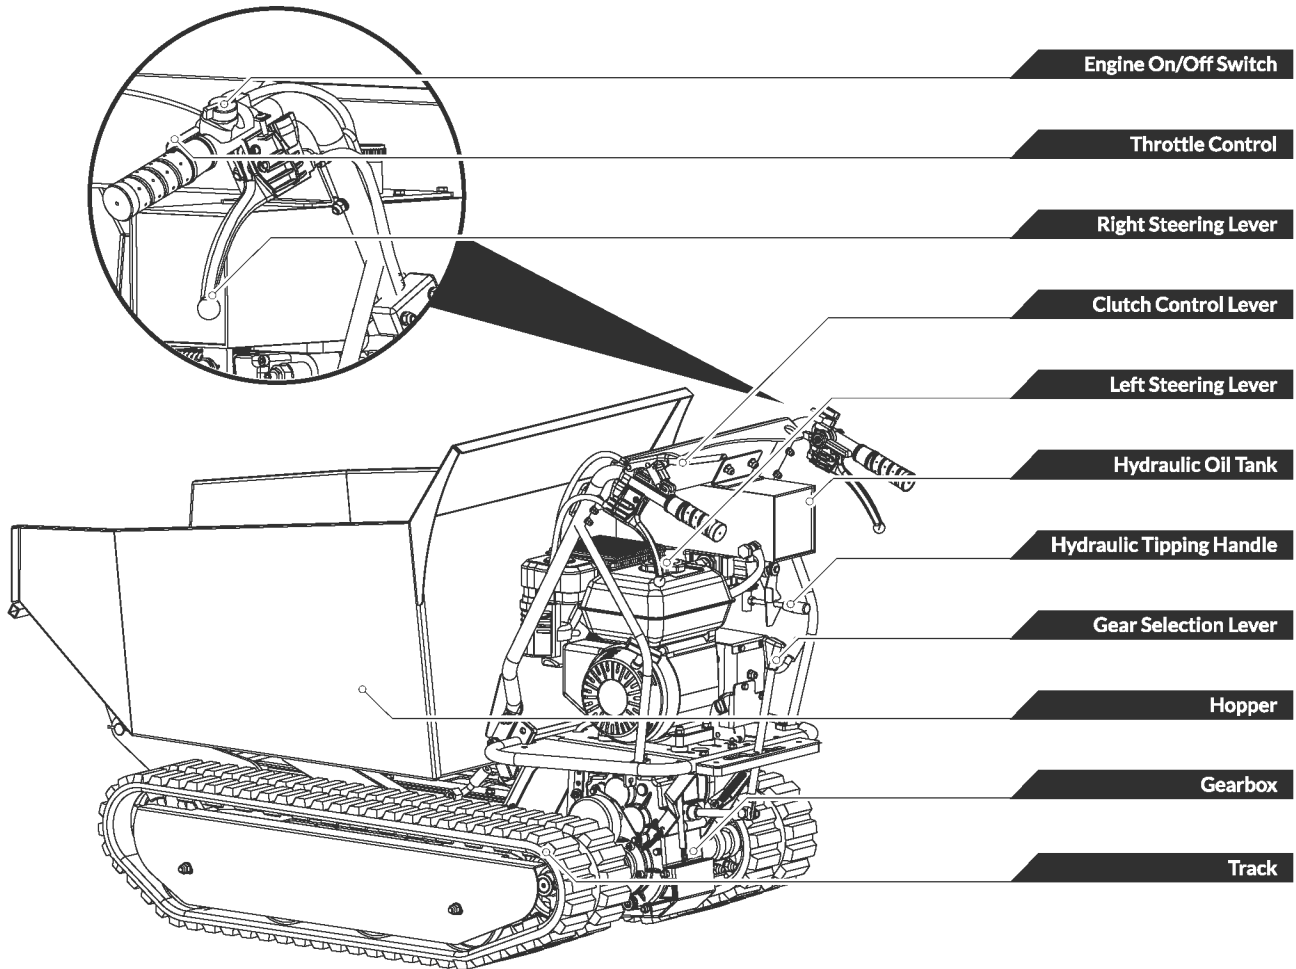

**Figure 2f**
8. Install the already assembled plow blade to the trackbarrow as shown. (See **Figure 2f**)